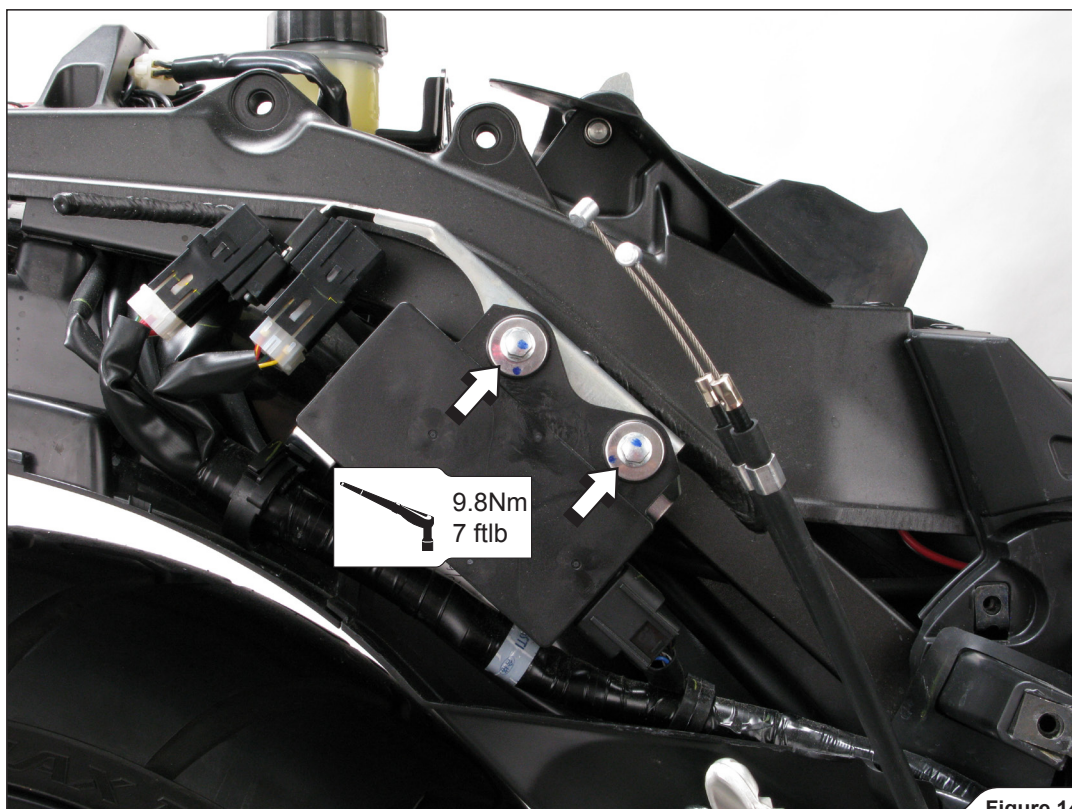

Figure 14
12. For OPEN SLIP-ON only: reattach the servo motor (Figure 14).